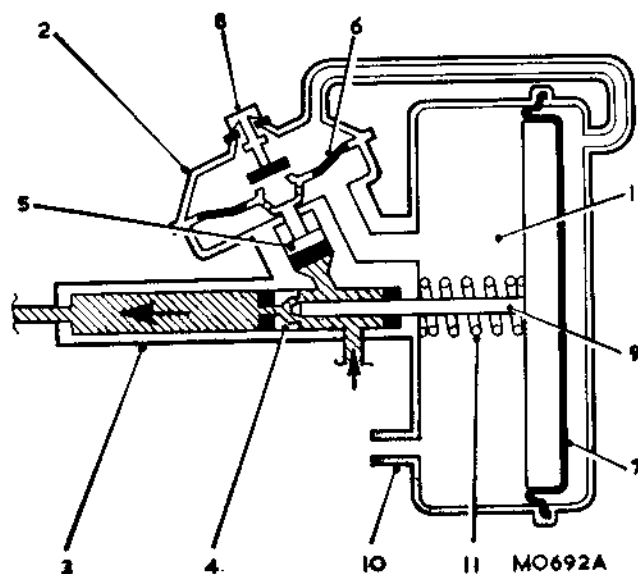

Fig. M.9
Refer to Fig. M.9. The vacuum-operated servo unit consists of three main components, namely the vacuum cylinder (1), the air valve assembly (2), and the slave cylinder (3) which is connected in the hydraulic circuit between the main master cylinder and the wheel cylinders. Under light braking fluid is allowed to pass directly to the wheel cylinders via the hollow centre of the slave piston (4) and no braking assistance is obtained; fluid pressure acting on the air valve piston (5) closes the diaphragm (6), thus separating the chamber behind the main servo diaphragm (7) from the one in front. Under heavier braking, further movement of the air valve piston opens the air valve and allows air to enter the chamber behind the main diaphragm, destroying the vacuum. The central rod (9) is thus pushed to the left, sealing the hollow centre of the slave piston and pushing it down its bore, so increasing the fluid pressure at the wheel cylinders. When the brake pedal is released, the pressure beneath the air valve piston is destroyed, the diaphragm (6) re-opens and the air valve closes. Via the non-return valve (10), a suspended vacuum is recreated around the main diaphragm. Under the action of the spring (11), the diaphragm and push-rod, and thus the slave piston, are returned to their original positions, and the pressure in the wheel cylinders is lost.